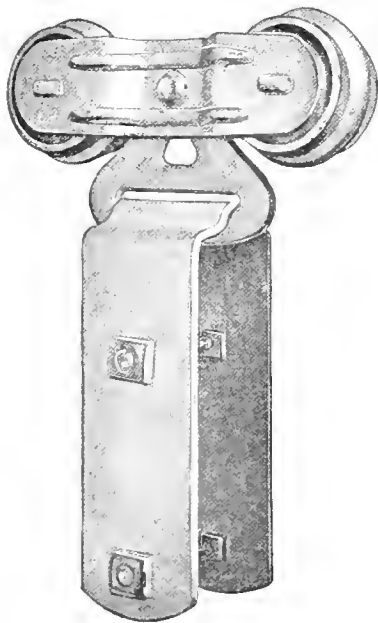

Fig. 902
Door Hanger Trolleys—Fig. 902
The supporting parts are of heavy malleable iron, riveted to the truck frame midway between the two wheels. This malleable support comes down just below the lips of the track and carries a broad steel strap which attaches to the door. This is the second point of flexibility in the Loudon Bird-Proof Hanger, and allows the door to swing freely sidewise. (See Fig. 902.)
- The regular Bird-Proof Hanger, Fig. 902, or Bird-Proof Adjustable Hanger, Fig. 1052, operates in this track.